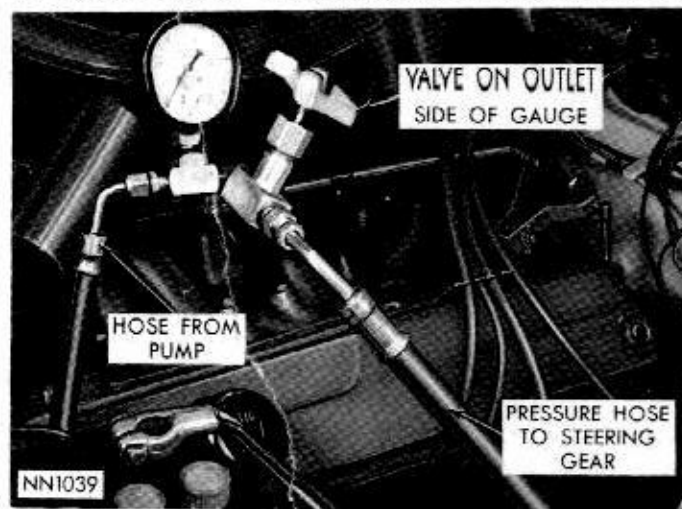

Fig. 3—Pressure Test
(1) Inspect fluid level in reservoir. Fill to correct level indicated on dip stick if necessary.
(2) Measure belt tension and correct if necessary. See "Cooling System," Group 7.
(3) Disconnect the high pressure hose at the steering gear and connect the free end of the hose to the gauge side of C-3309D. Connect a second pressure hose from the valve side of C-3309D to the steering gear. The valve must be installed on the outlet side of the gauge (Fig. 3).
(4) Insert thermometer in fluid reservoir, start